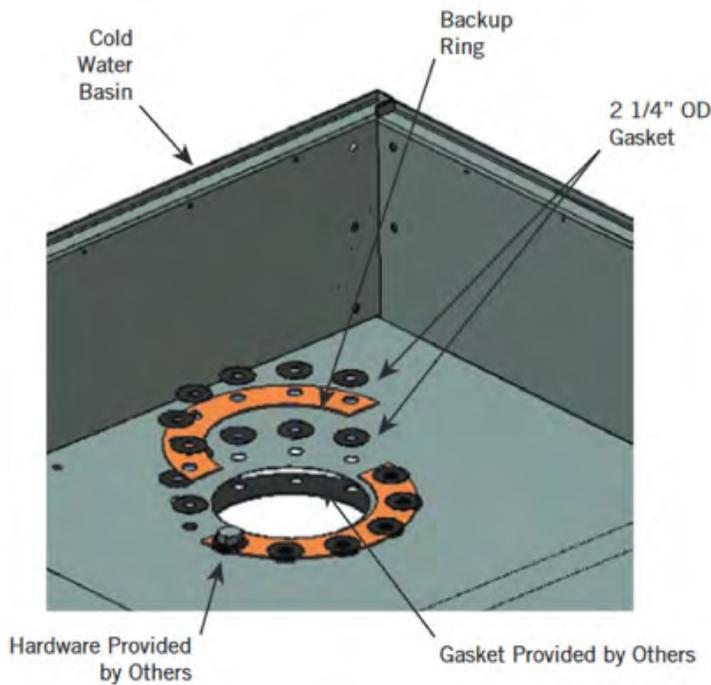

Figure 7. Bottom Water Outlet
1. The bottom connection seal, **Figure 7**, is typical for all bottom remote sump outlets. Flange mounting hardware and gasket to be supplied by others.